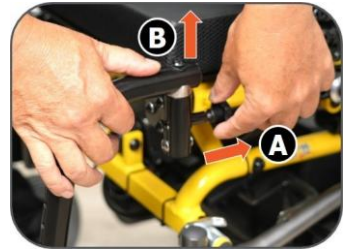

Figure 9.14
**To remove the footrest:** Pull and hold the legrest release knob (A), then lift the legrest upward to remove it from the mounting bracket (B) (see Figure 9.14).